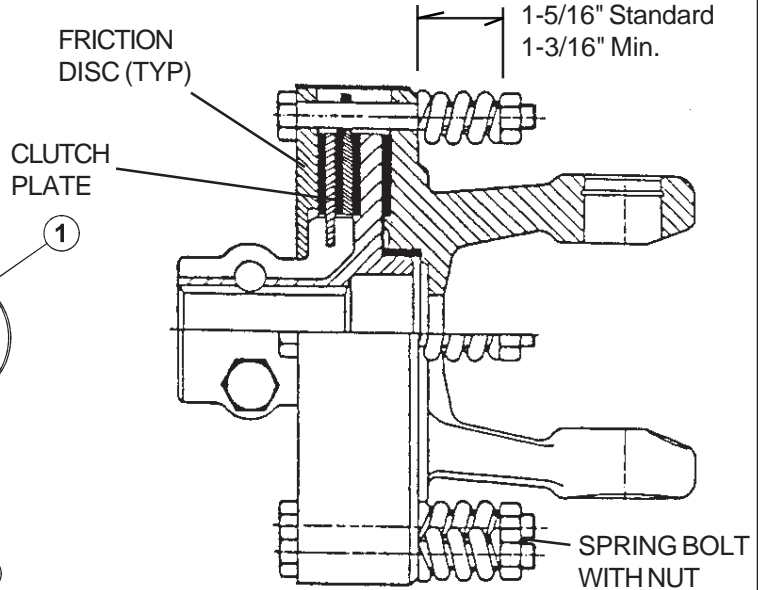

FIGURE 21
#### D. TO ADJUST (Refer to Figure 21)
1. To adjust Slip Clutch, tighten Bolts (1) until the Nut makes contact with Compression Spring (10).
- a. Tighten the Nuts (1) one-half turn in rotation.
- c. Then, carefully tighten 3/8 of a turn. As a double check, the Springs should now be **COMPRESSED TO 1-11/32" (1.34") TO 1-5/16" (1.31") long. SEE FIG 21.**
3. Re-assemble Clutch to Gearbox. Tighten Bolts (6) securely.
4. If Clutch slips too easily, **STOP PTO AT ONCE.** Tighten each Adjusting Nut (1) **NO MORE THAN ¼ TURN AT A TIME. NEVER TIGHTEN SPRINGS SHORTER THAN 1-9/32" (1.28") LONG EVEN AFTER DISK WEAR.**